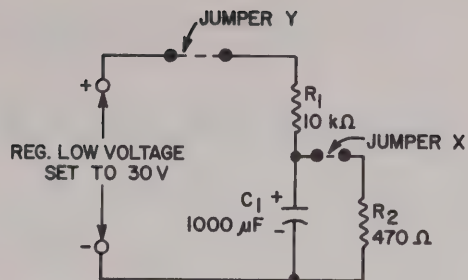

FIGURE 4-1
1. Set up the circuit shown in Figure 4-1 following the layout of Figure 4-2 (be sure to observe the capacitor polarity). The jumper wire marked X is used to discharge the capacitor through the 470 Ω resistor. Because of the high value of C_1 , it should not be discharged with a short. The jumper wire marked Y is used as a switch to apply voltage to the RC circuit (when jumper X is removed).
3. Calculate the RC time constant of the circuit of Figure 4-1.